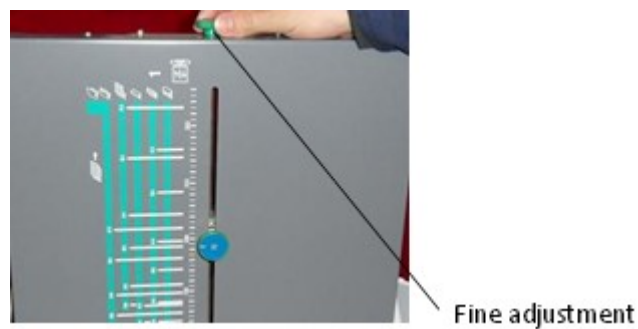

Fig.9 Fine adjustment
- 2) Rotate the fine adjustment knob to adjust it to the correct position during the trial-folding(See Fig.9)